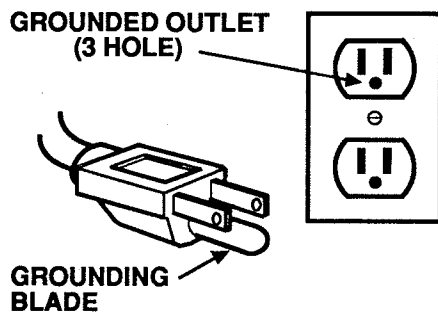

Figure 1
2. For North American models, connect only to a grounded 120 volt A.C. (3 hole) electrical outlet. See Figure 1.